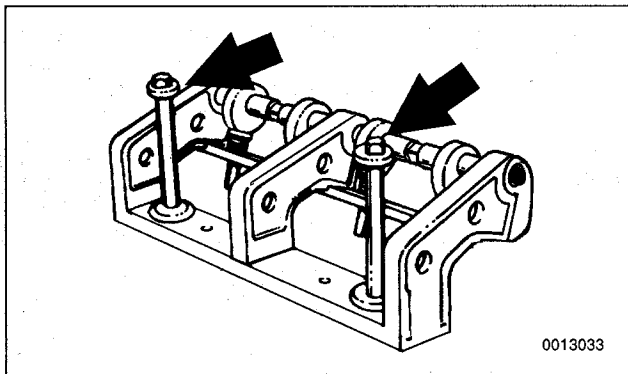

Fig. 1. Special BMW tool no. 11 3 260. Tool mounting bolts (arrows) thread into spark plug holes.
4. Remove spark plugs and install BMW special tool 11 3 260 to cylinder head. Tighten tool retaining bolts in spark plug holes. Do not over-tighten bolts. See Fig. 1.